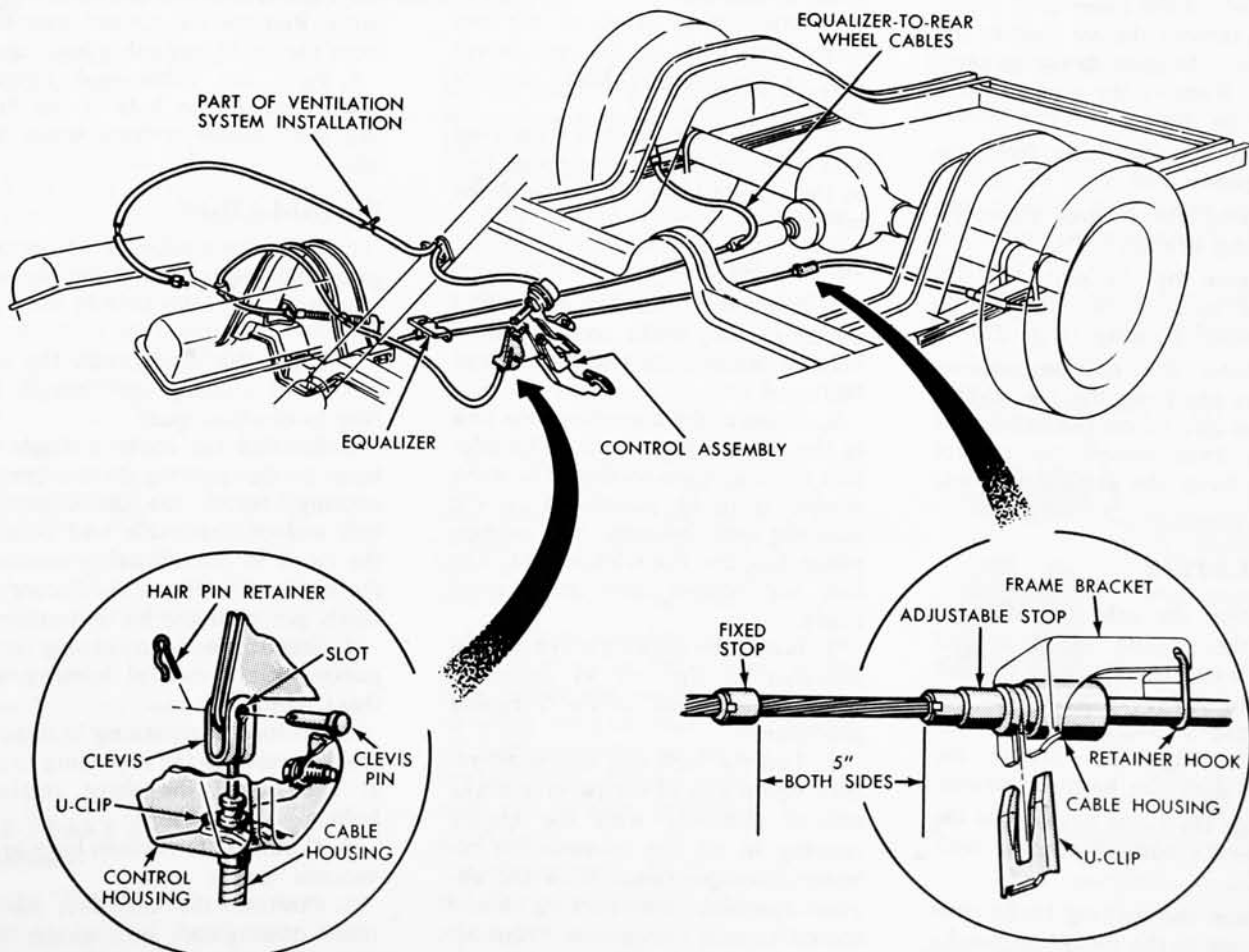

FIG. 22 - Parking Brake System
5. Remove the U-clip that retains the cable housing to the parking brake control housing (Fig. 22).
1. Position the cable through the hole in the parking brake control housing. Install the clevis on the ball end of the cable and connect the clevis to the actuating arm with the clevis pin (Fig. 22). Secure the clevis pin with the hairpin retainer.
3. Position the cable through the hole in the parking brake control housing. Install the clevis on the ball end of the cable and connect the clevis to the actuating arm with the clevis pin (Fig. 22). Secure the clevis pin with the hairpin retainer.
4. Remove the U-clip that retains the cable housing to the frame bracket. Disengage the housing from the bracket and slip off the retainer hook (Fig. 22).
3. Thread the front end of the cable through the frame bracket, and engage the cable housing to the bracket. Install the U-clip and retainer hook (Fig. 22).
4. While holding the adjustable cable stop against the cable housing end, pull the cable through the housing until there is a distance of five inches between the two stops as shown in Fig. 22. Crimp the adjustable stop against the cable to hold this dimension.